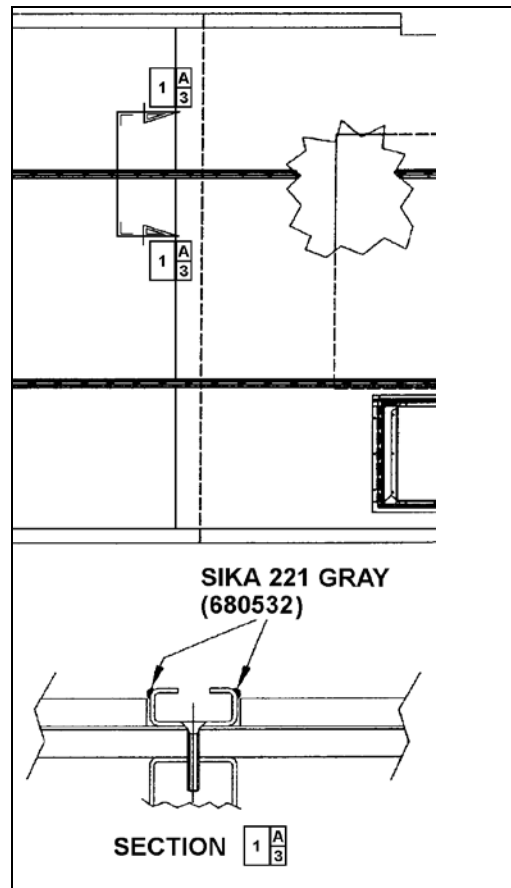

FIGURE 81: APPLICATION OF SIKA 221 GRAY 18641
8. Apply Sikaflex 221 gray sealant (680532) alongside passenger seat fixing tracks (refer to Figure 81).